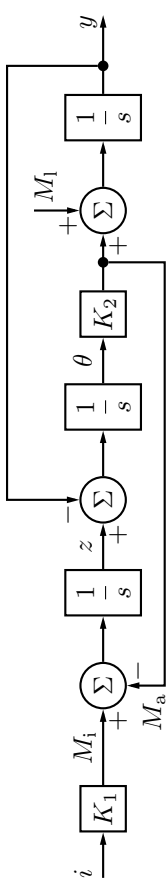

Figure 8.3a
8.3 The block diagram in Figure 8.3a describes an electric motor that drives a load via an elastic axis. Here  $i$  is the driving current to the motor, which gives the torque  $M_i$ .  $z$  is the turning rate of the motor and  $y$  is the turning rate of the load.  $\theta$  is the angle of the transmission axis.  $M_a = K_2\theta$  is the torque this angle causes.  $M_1$  is the torque from the load. Give a state space description for the system with  $M_1$  and  $i$  as inputs and  $y$  as output. (There are at least two different ways to solve this problem.)